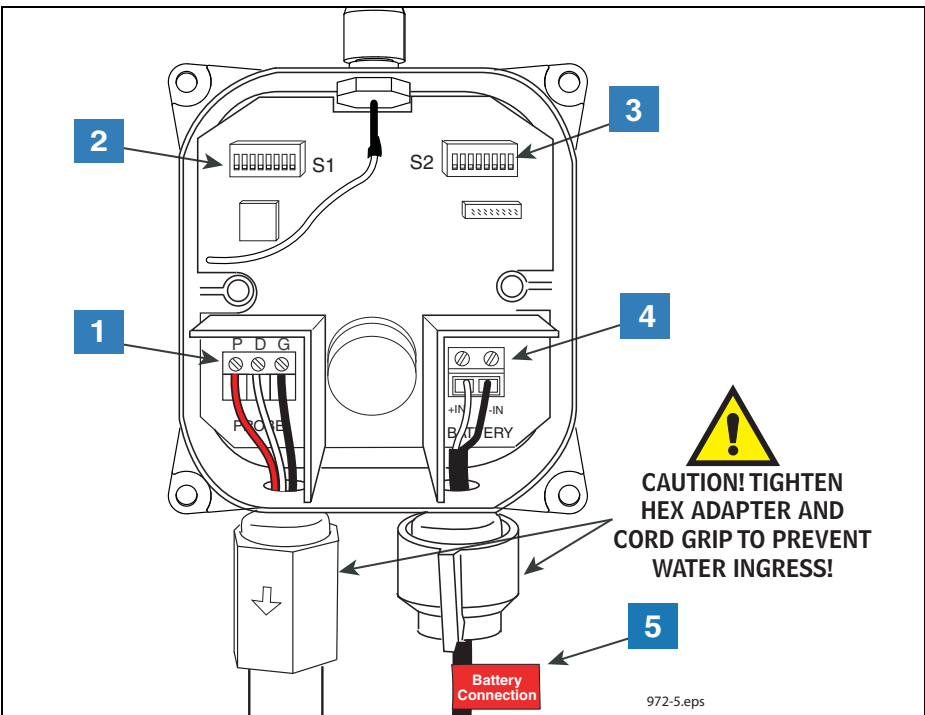

Figure 16. Connecting probe and battery pack cables to the TLS XL-Transmitter
1. Strip back the probe cable jacket and wires as shown in Figure 16.
2. Attach the three MAG-XL Flex Probe cable wires to the PROBE terminal block (red to P, white to D and black to G) (see item 1 in Figure 16).
3. Making sure the battery cable is not connected to the battery pack, attach the battery pack/dc power cable to the BATTERY terminal block (white to +IN and black to -IN) as shown in Figure 16.
LEGEND FOR NUMBERED BOXES IN Figure 16